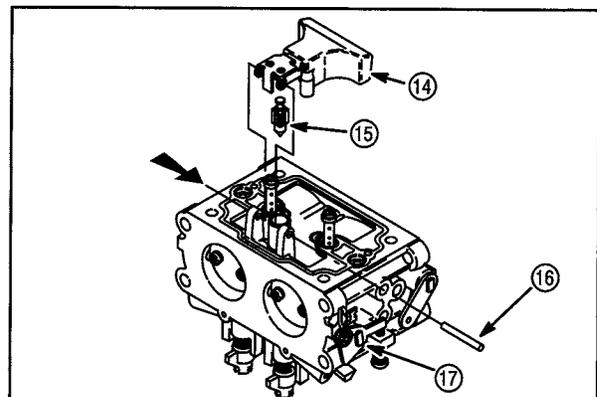

Fig. 64
- Drive out float hinge pin (16) from side OPPOSITE throttle lever (17). Remove float (14) and fuel inlet needle (15) assembly, Fig. 64.